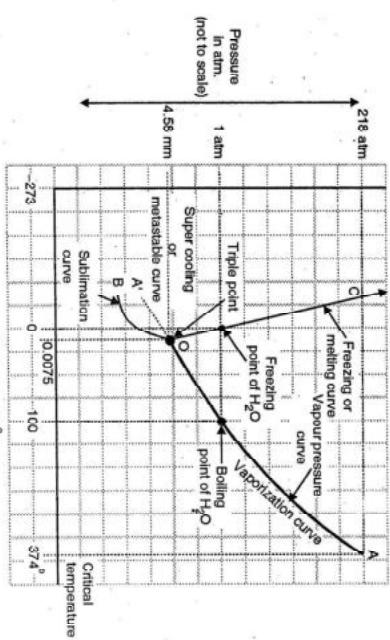

Fig. 5.3.1 : Phase diagram of water system
- Therefore, the following three different cases are possible, (Explained with the help of phase diagram, refer Fig. 5.3.1).